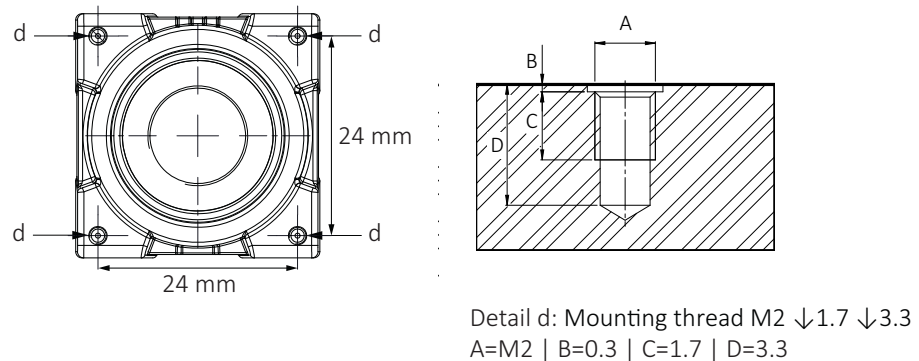

Figure 88: Camera front with mounting threads (d)
1. Mount the camera to the base using suitable M2 screws at 0.17 Nm maximum torque for a thread engagement (C) of 1.7 mm between screws and mounting threads, see Figure 88. For technical drawings, see Standard Alvium: Dimensions and mass on page 189.